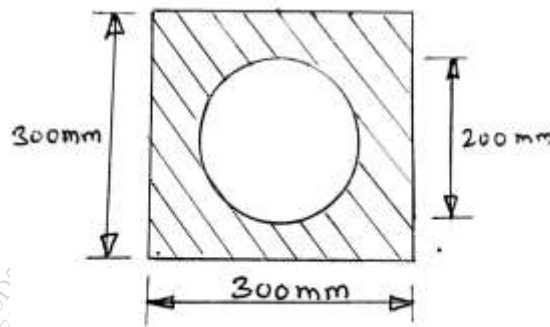

Figure 2
- Q.5 a) A steel section shown in figure 2 is subjected to a shear force of 200 KN. Draw shear stress distribution diagram Also find the ratio of maximum shear stress to average shear stress